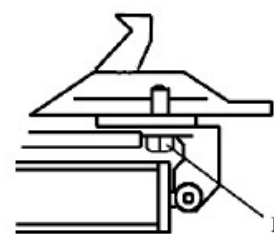

Fig.10
Notice: After the first 20 days of use, retighten the jaws with tightening screws (B) on the Turntable (Fig.10)